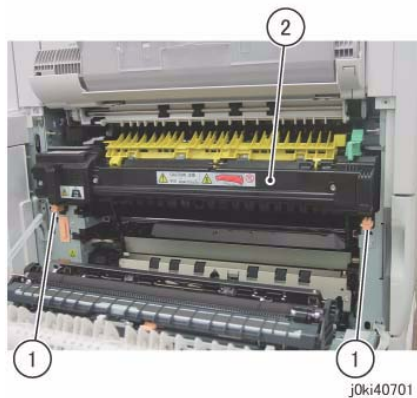

Figure 1 Remove the Fuser
4. Remove the Fuser. (Figure 1)